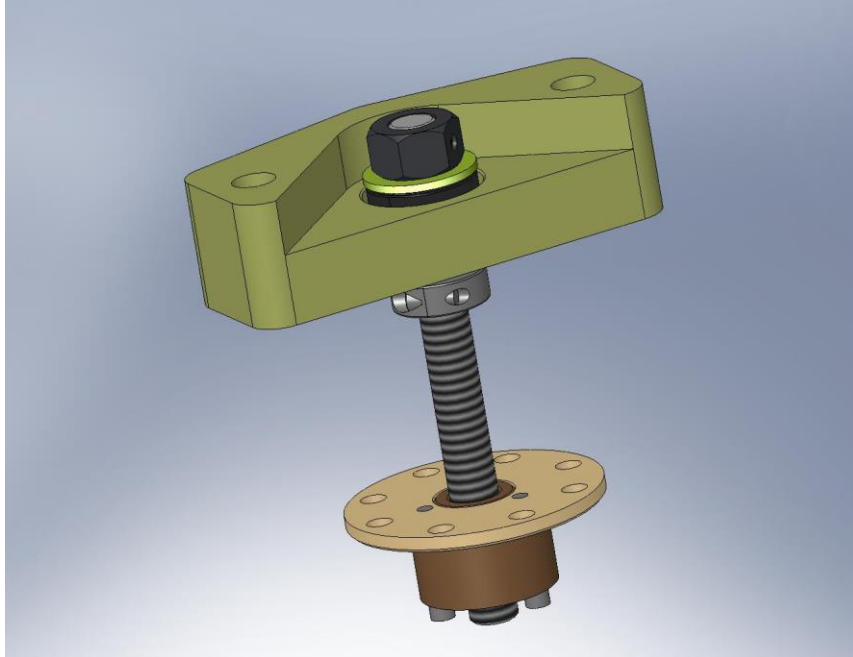

Figure 4.62. Pull-Down Nut threaded onto end of ACME Screw. The bottom part of the Spring Pull-Down Assembly is complete.
- Thread **ACME Screw** into **Spring Pull-Down Nut**, as shown in Figure 4.62. Set aside.